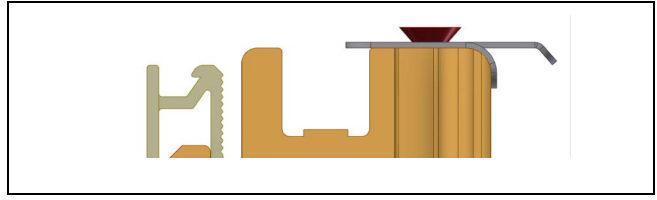

Figure 5
2. Bracket placement for the Outswing Door, See Figure 5.